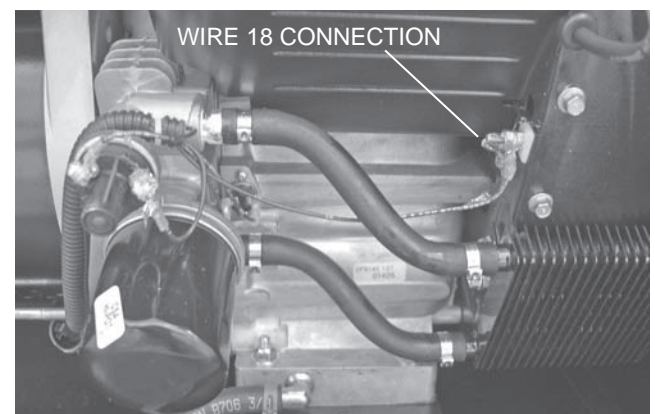

Figure 36. Wire 18 Connection
- f. Digital Input 1 is Wire 86 from the Low Oil Pressure switch to the board. Refer to Figure 36.
2. Connect one meter test lead to Wire 18 that is connected to the bolt connector shown in Figure 36. Connect the other meter test lead to a clean frame ground.